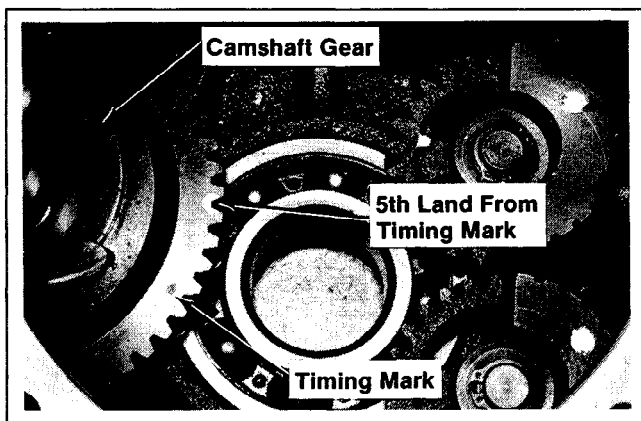

Figure 12-19. Marking Land On Camshaft Gear.
Camshaft - Locate the timing mark on camshaft. Starting with the land next to the timing mark, count five (5) lands in a **counterclockwise** direction. Mark the fifth land. Refer to Figure 12-19.